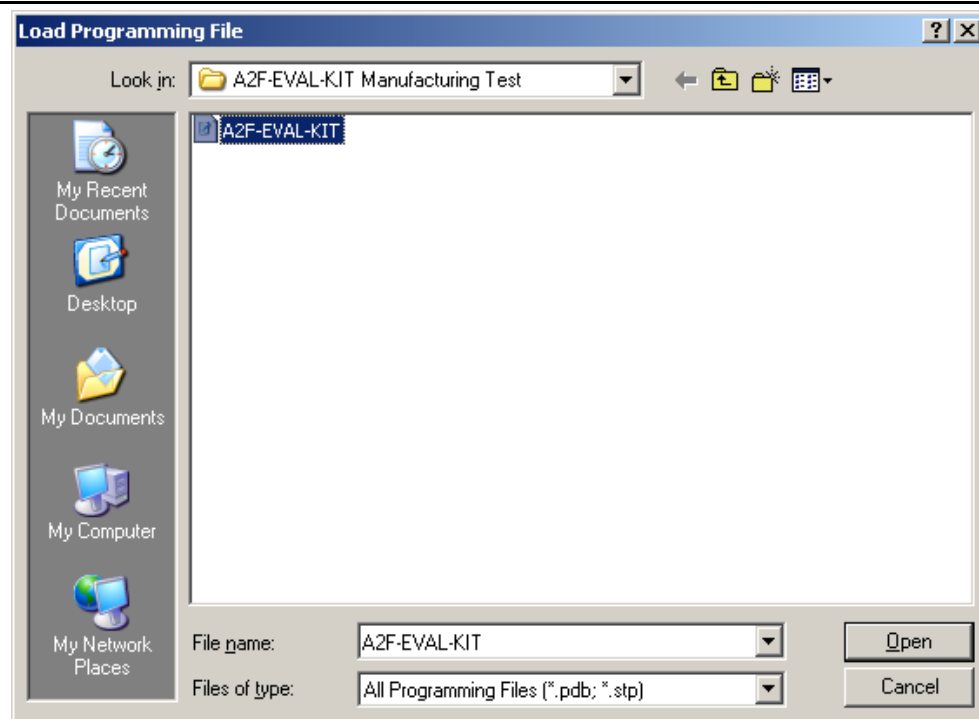

Figure 4 • Selecting Manufacturing Test STAPL File
5. Browse the PC file system to find the A2F-EVAL-KIT.stp programming file. Click **Open** to select the A2F-EVAL-KIT.stp file (Figure 4).